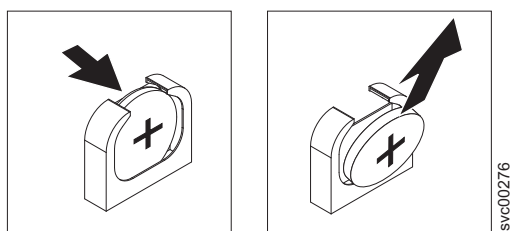

Figure 187. SAN Volume Controller 2145-CG8 or 2145-CF8 CMOS battery holder
8. Remove the CMOS battery, as shown in Figure 187: